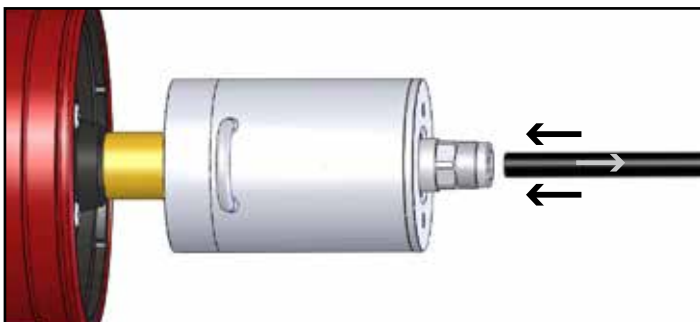

Fig 8: Disassembly of sensor hose
The sensor hose is released by lightly pressing the hose connection collet whilst ⑤ pulling the hose ④ in the opposite direction (fig 8).